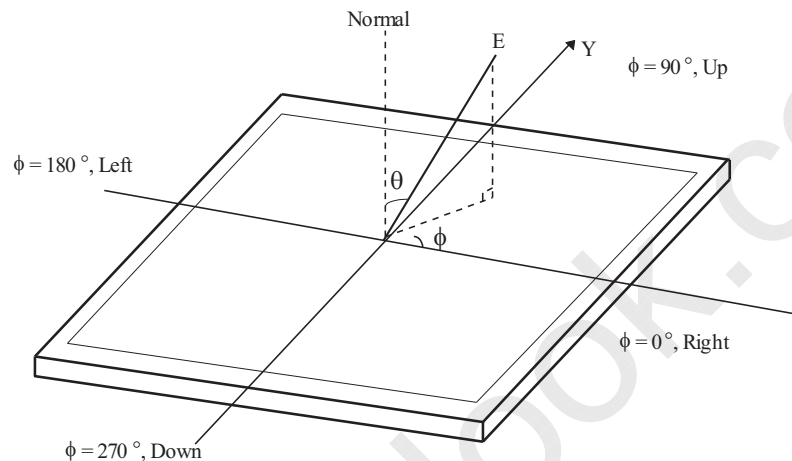

FIG.4-4 Viewing Angle
- 6) **Viewing Angle** is the angle at which the contrast ratio is greater than 10. The angles are determined for the horizontal or x axis and the vertical or y axis with respect to the z axis which is normal to the LCD surface. For more information see FIG.4-4. **(By PR880)**